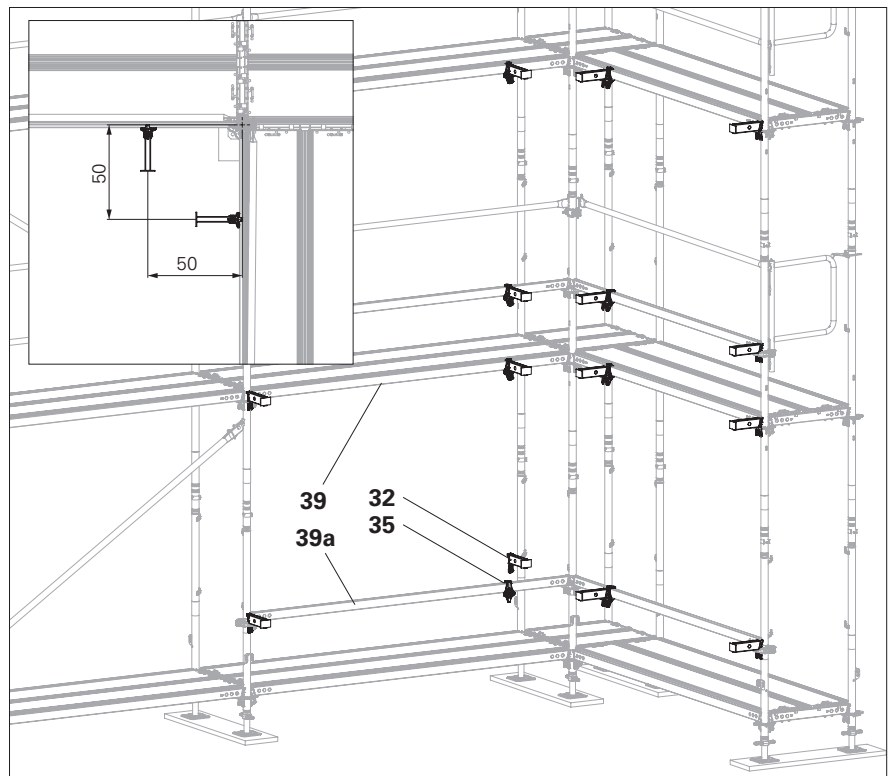

Fig. C2.02
5. Mount the UC 25 (**32**) support in Ledger-to-Ledger Coupler UHA-2. Do not secure the wedges yet. (Fig. C2.02)